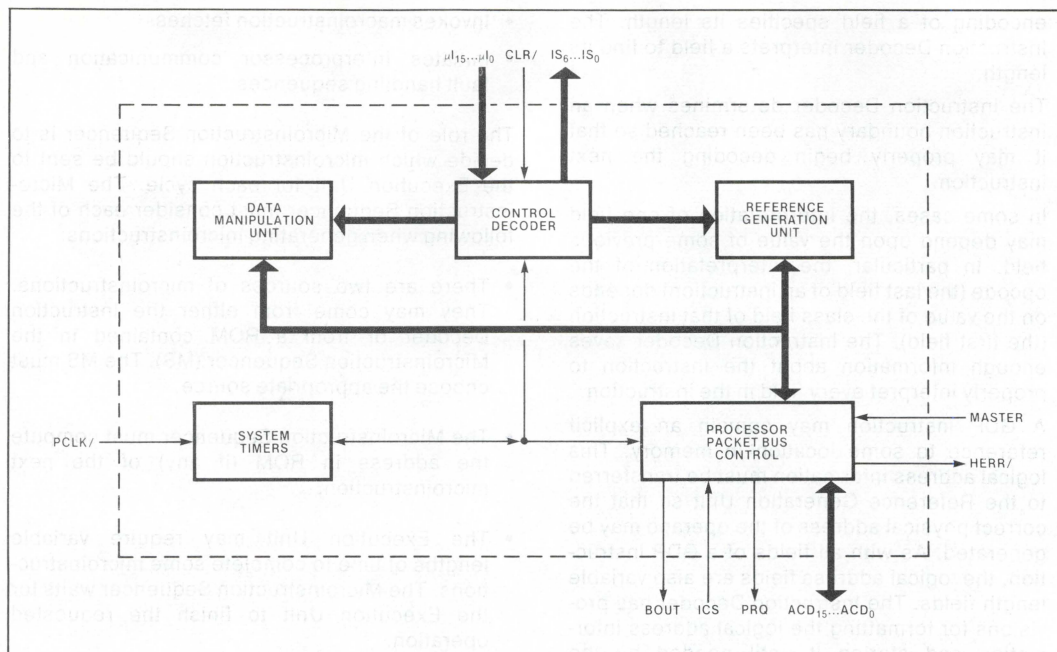

Figure 4. 43202 Block Diagram
The 43202 contains the third stage of the GDP pipeline—the Execution Unit (EU). (Refer to Figure 4.) This unit receives microinstructions from the 43201 and routes them to one of the two independent subprocessors that make up the EU. These two are the Data Manipulation Unit (DMU) and the Reference Generation Unit (RGU).